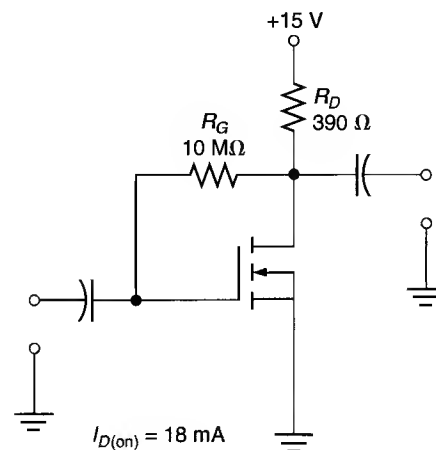

FIGURE 13.34
16. Calculate the values of I_D and V_{DS} for the amplifier in Figure 13.34.